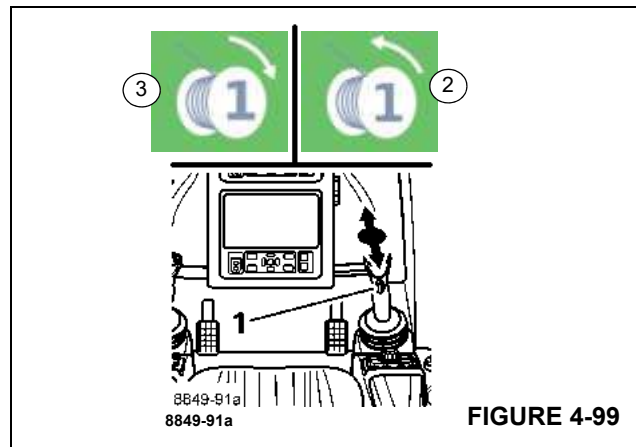

FIGURE 4-99
| Raising:  | Pull the control lever to the rear – symbol (3), (Figure 4-99) is displayed.  |
| Lowering: | Pull the control lever to the front – symbol (2), (Figure 4-99) is displayed. |
When the hoist drum is turning, you will notice a pulse on the rotation indicator (1), (Figure 4-99).